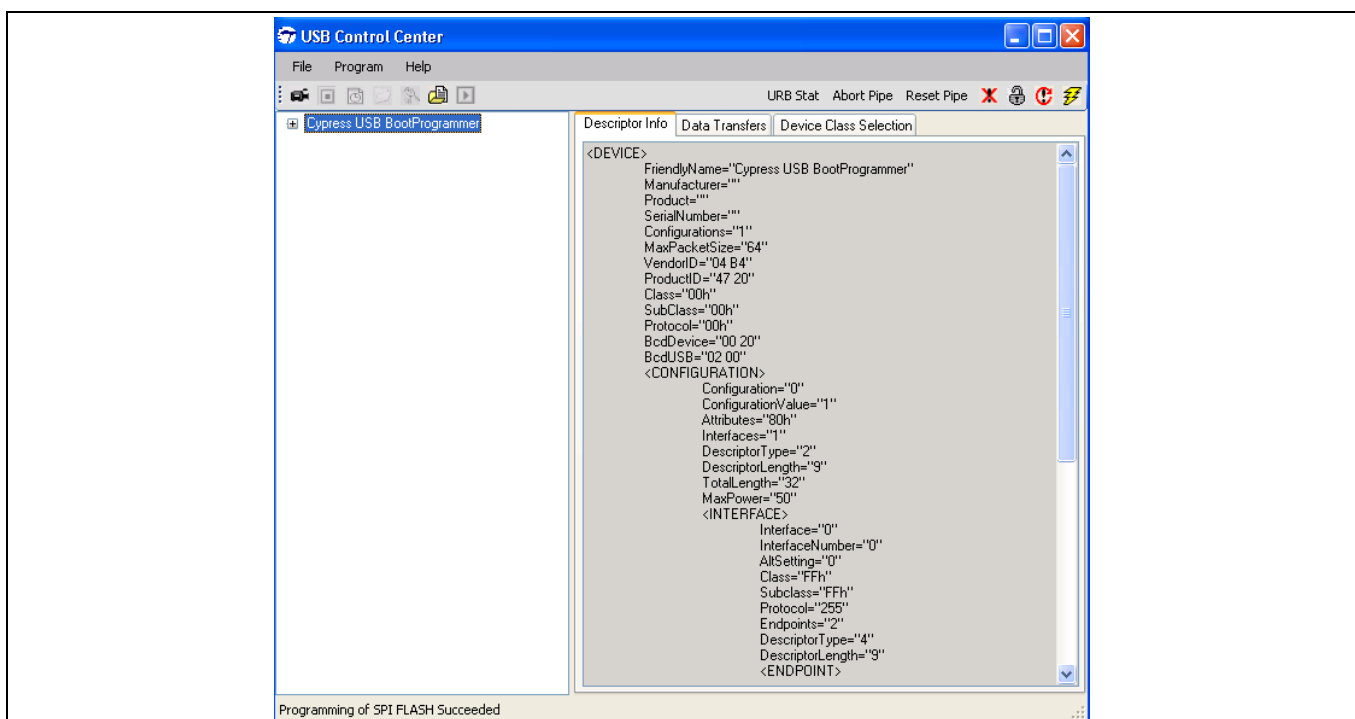

Figure 33 Successful programming of SPI flash indicated at bottom left of Control Center
- After programming is complete, the bottom left corner of the window displays “Programming of SPI FLASH Succeeded,” as shown in Figure 33.